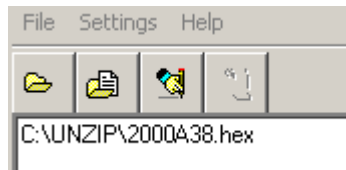

Figure 17: Open File in WinLoad
Once you have selected your file, the name should appear in the main display area and in the title bar, see *Figure 17*.
4. Make sure the file path and file name are displayed in main display area, see *Figure 17*.